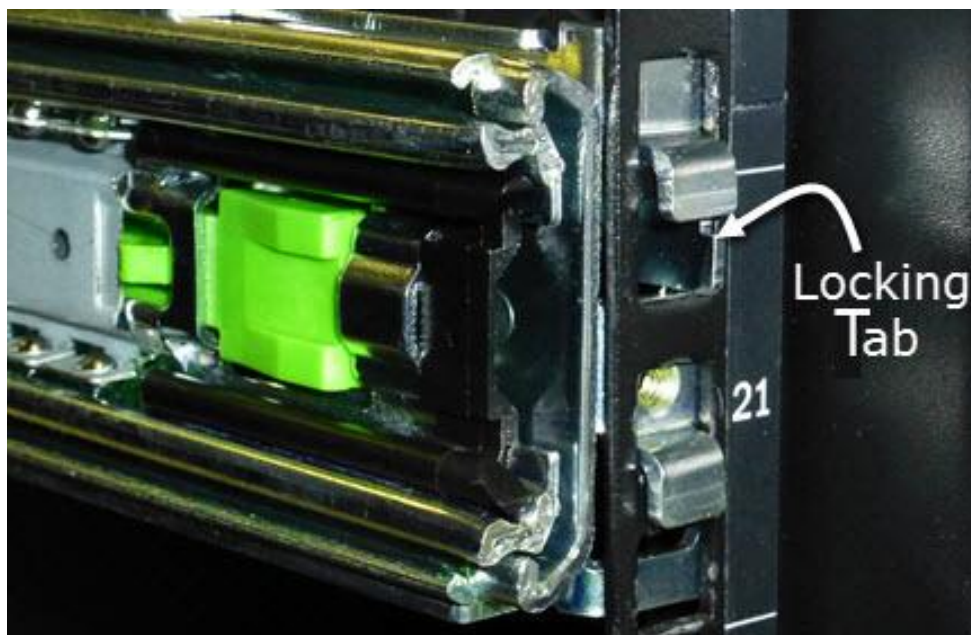

Figure 8. **Rack Mount Locking Tab**
- iv. Ensure locking tab clicks into place (Figure 8).